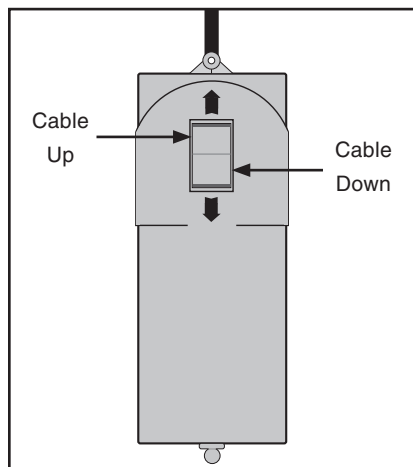
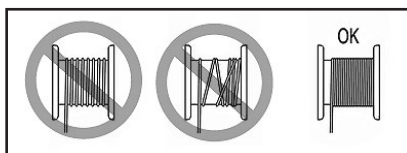

Figure 6. Controller.
Figure 9. Proper cable winding.
2. Grab the lift hook and pull it away from the hoist while using the control handle to lower the hoist cable a few feet by pressing the switch in the down position (**Figure 6**).
2. Grab the lift hook and pull it away from the hoist while using the control switch to lower the hoist cable by pressing the switch in the down position (Figure 6).
6. Use the control switch to retract the cable (Figure 6). Watch or have an assistant view the cable as it winds up on the hoist spool. To prevent damage to the hoist cable, make sure that the cable is wound evenly, as shown in Figure 9.